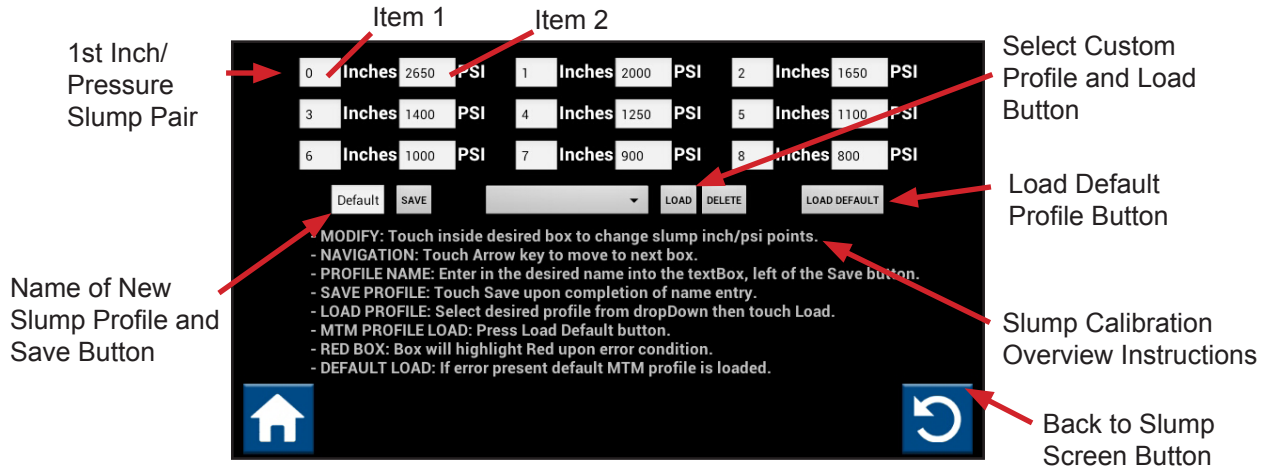

Figure 125
2. Touch the “Inches” (Figure 125, Item 1) or “PSI” (Figure 125, Item 2) text box to bring up the on-screen keyboard to enter in and change the value.
1. Enter the Slump Calibration screen (Figure 125).